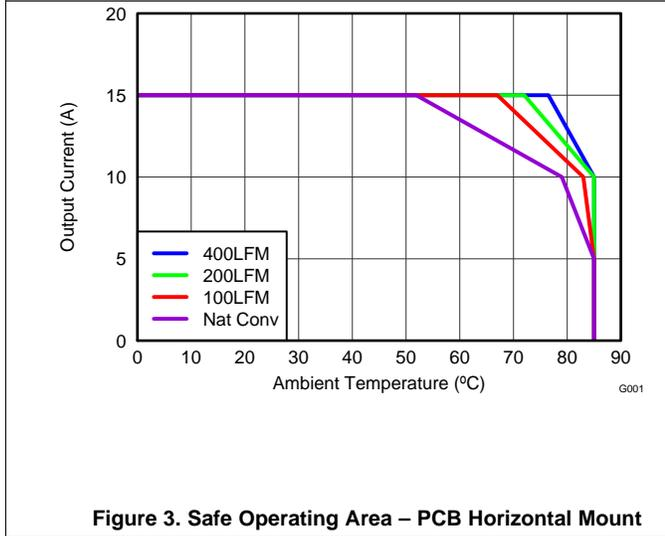
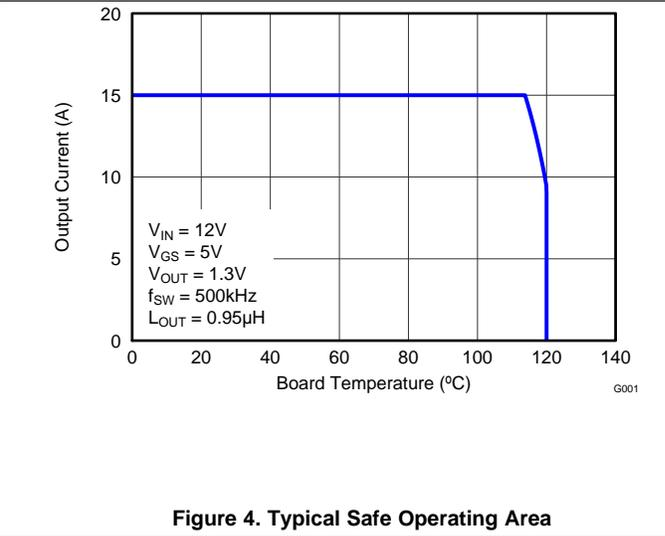

Figure 3. Safe Operating Area – PCB Horizontal Mount
Figure 4. Typical Safe Operating Area
$T_J = 125^{\circ}\text{C}$ , unless stated otherwise. For Figure 3 and Figure 4, the Typical Power Block System Characteristic curves are based on measurements made on a PCB design with dimensions of 4 inches (W) × 3.5 inches (L) × 0.062 inch (H) and 6 copper layers of 1 oz. copper thickness. See Application and Implementation for detailed explanation.
$T_J = 125^\circ\text{C}$ , unless stated otherwise. For Figure 3 and Figure 4, the Typical Power Block System Characteristic curves are based on measurements made on a PCB design with dimensions of 4 inches (W) x 3.5 inches (L) x 0.062 inch (H) and 6 copper layers of 1 oz. copper thickness. See Application and Implementation for detailed explanation.
The SOA curves in the CSD87381P data sheet provides guidance on the temperature boundaries within an operating system by incorporating the thermal resistance and system power loss. Figure 3 to Figure 4 outline the temperature and airflow conditions required for a given load current. The area under the curve dictates the safe operating area. All the curves are based on measurements made on a PCB design with dimensions of 4 inches (W) × 3.5 inches (L) × 0.062 inch (T) and 6 copper layers of 1 oz. copper thickness.